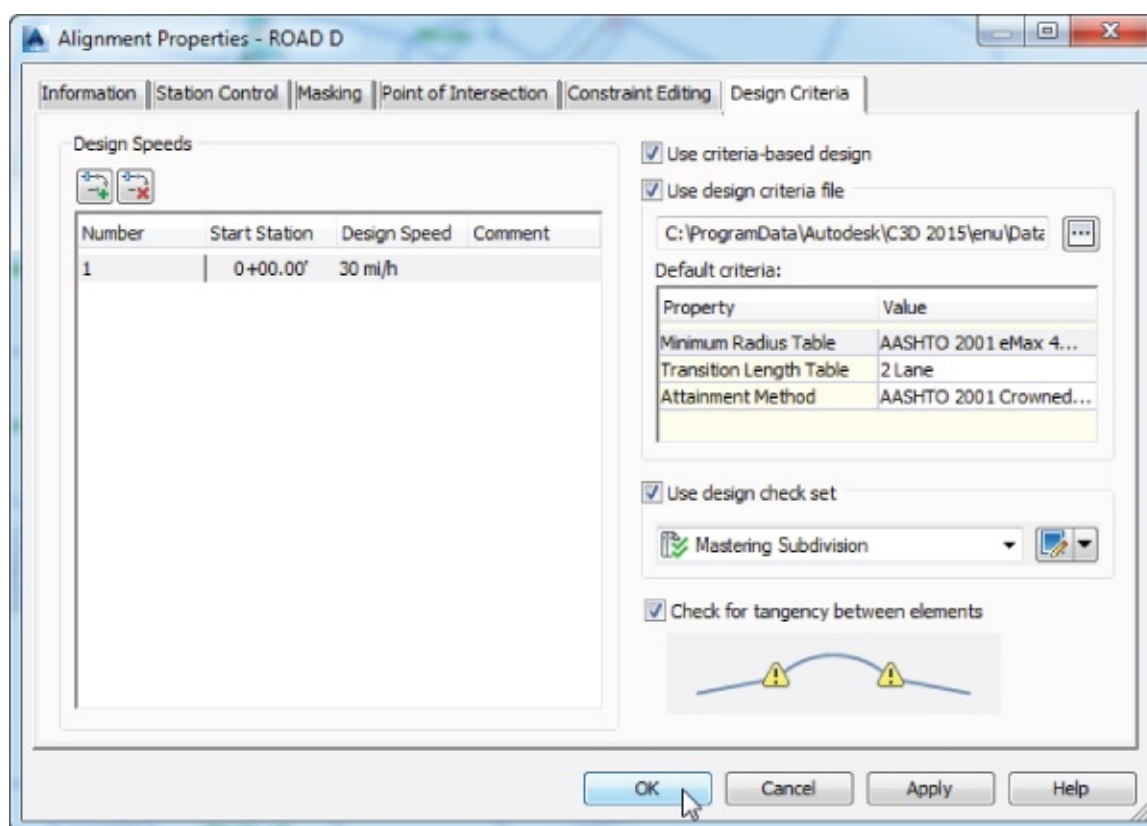

Figure 6.27 Setting up design checks from Alignment Properties
4. Change to the Design Criteria tab, and set the start station design speed to **30 mi/h** (or **48 km/h**), as shown in Figure 6.27.
5. Verify that all of the check boxes are selected and that Use Design Check Set is set to Mastering Subdivision, as shown in Figure 6.27.